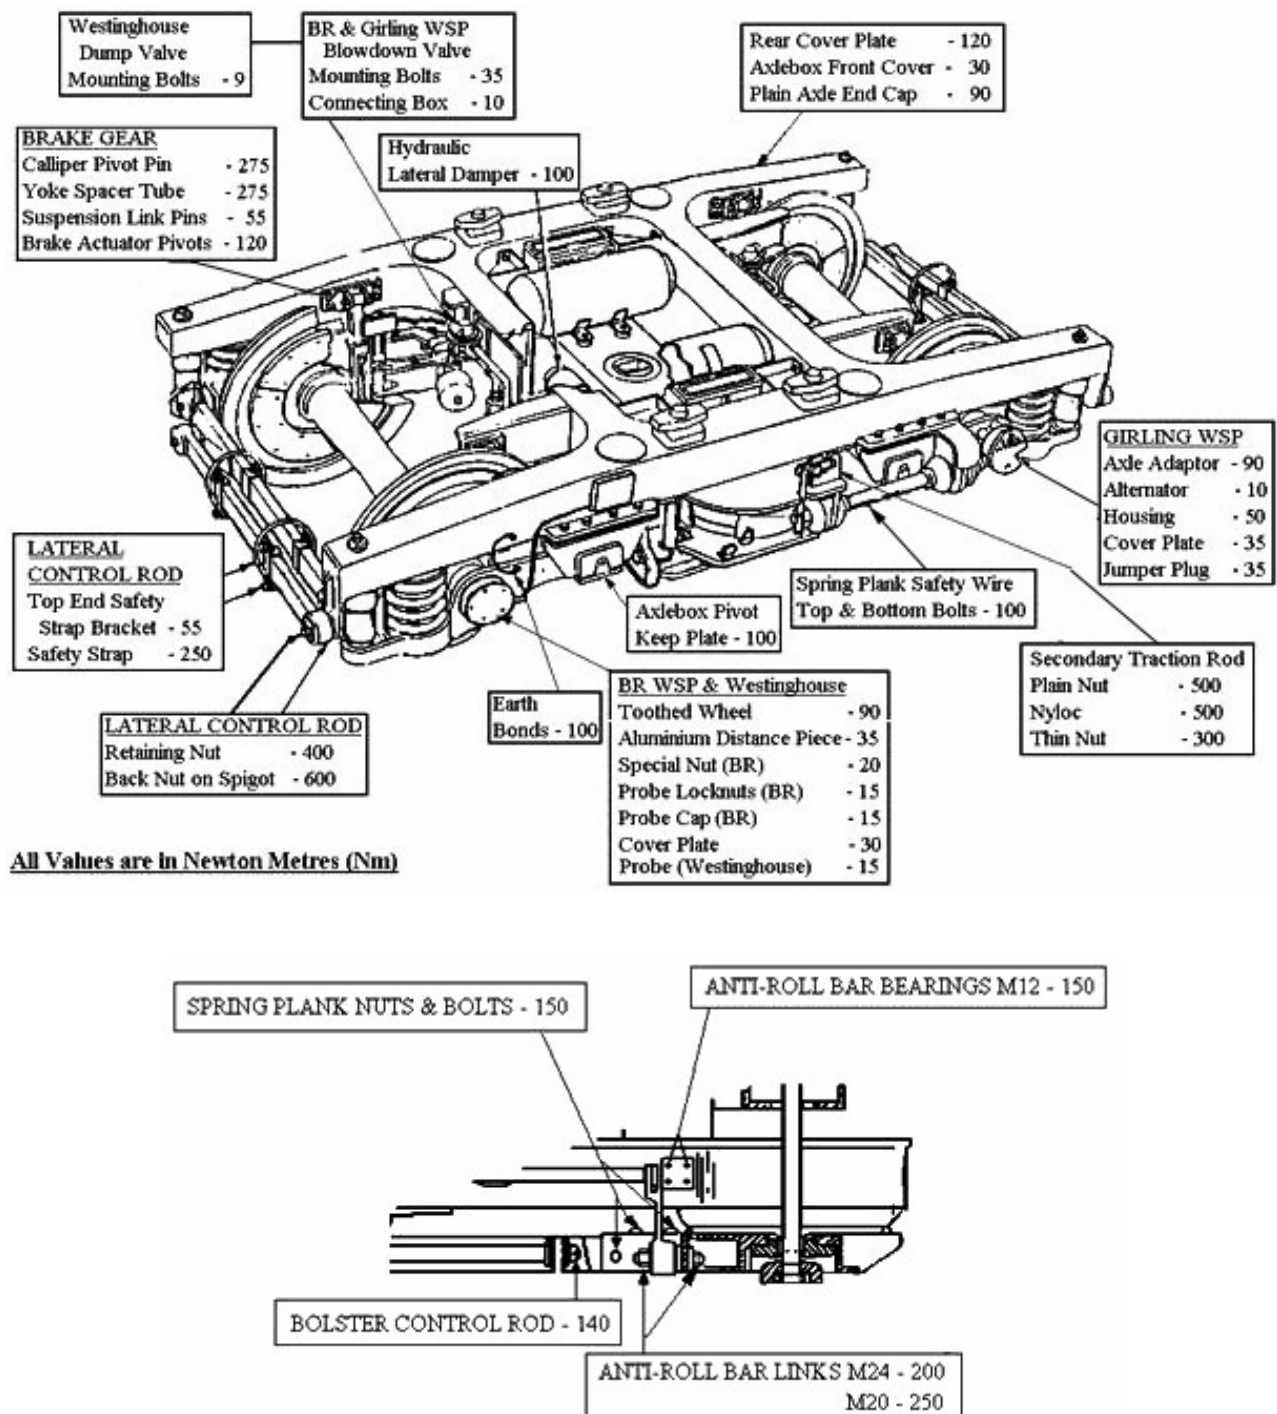

Figure 2: BT10 Bogie Diagram - Torque Settings
- A diagram showing all torques specified in this instruction is given in Figure 2 on page 3.